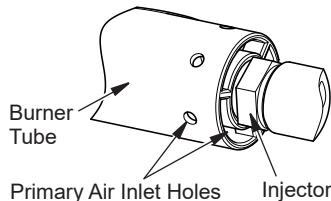
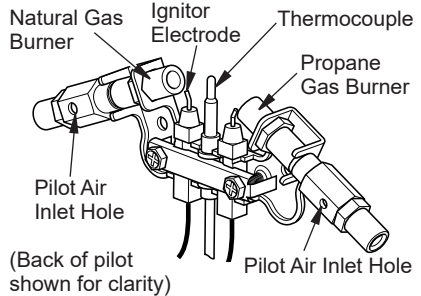

Figure 33 - Burner and Injector Holder
Figure 34 - Pilot Inlet Air Hole
2. Inspect burner primary air inlet holes on injector holder (see Figure 33), and pilot (see Figure 34, page 26) for dust and dirt.
A yellow tip on the pilot flame indicates dust and dirt in the pilot assembly. There is a small pilot air inlet hole about 2" from where the pilot flame comes out of the pilot assembly (see Figure 34). With the unit off, lightly blow air through the air inlet hole. You may blow through a drinking straw if compressed air is not available.